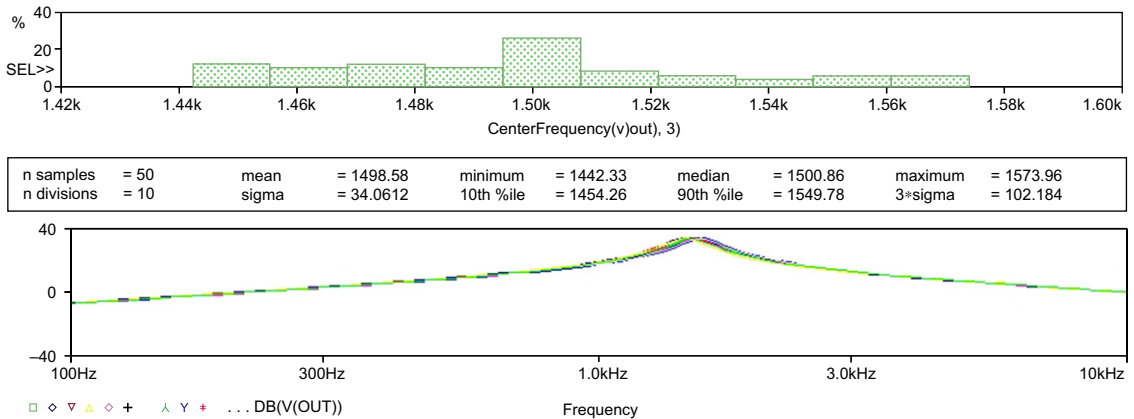

FIGURE 10.16
7. Change the resistor tolerances to 1% and the capacitor tolerances to 5% and re-run the simulation. Run a performance analysis as before using the center frequency measurement as above. The results are shown in Figure 10.16.